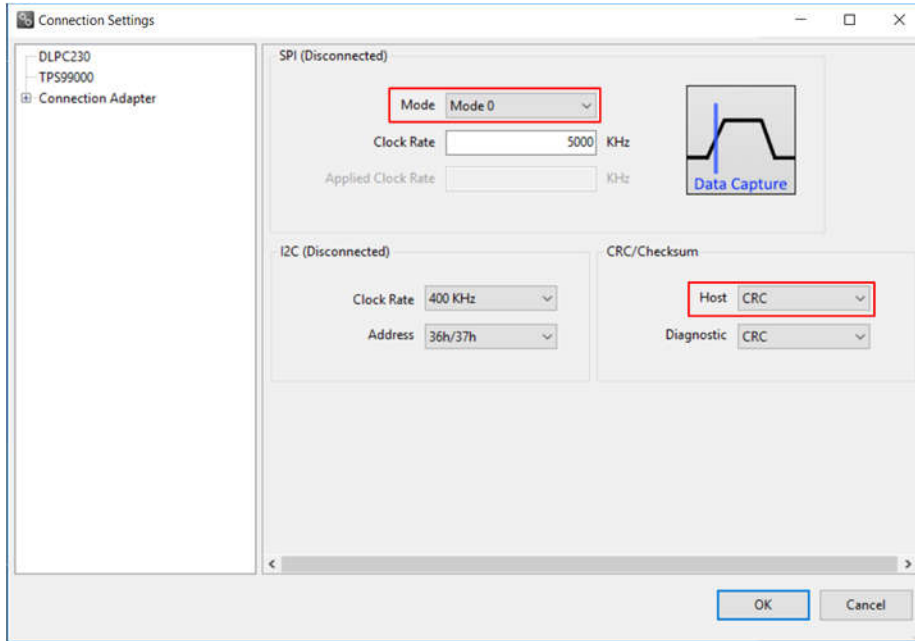

Figure 2-3. DLPC230-Q1 Automotive Control Program Communication Settings
3. Select "Connection Settings" to confirm the SPI configuration shown in Figure 2-3 matches the controller PCB switch settings described in Table 1-3. Specifically, SPI mode and CRC/Checksum may vary based on switch settings. Press "OK" once configuration is complete.